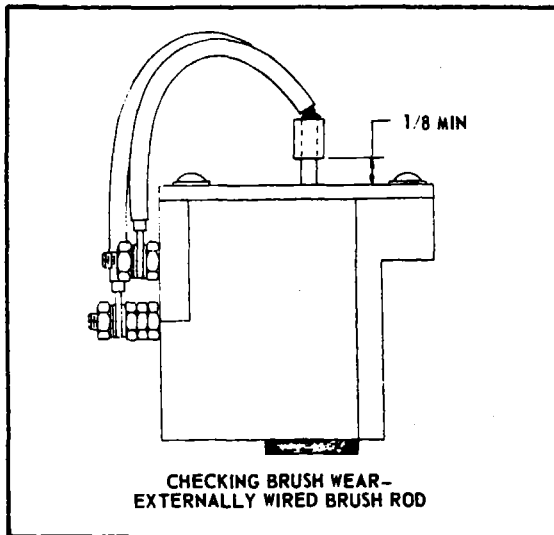

Figure 14-13. Determining
e. Check for damaged brush rods, springs or for worn or damaged brushes. Refer to Figure 14-13 or 14-14 as applicable, to determine brush wear.